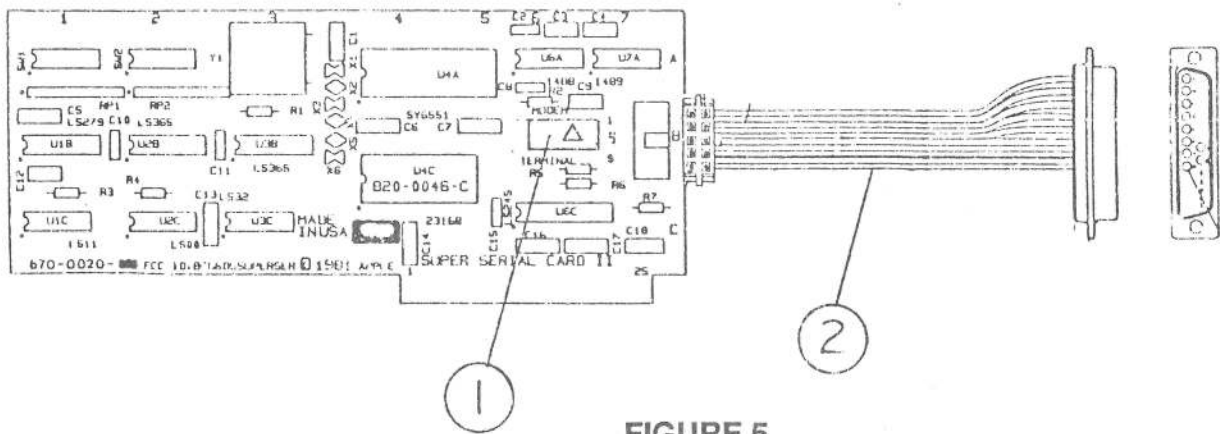

FIGURE 5
IPL.7	Super Serial Card (Figure 5)
□ SUPER SERIAL CARD (Figure 5)